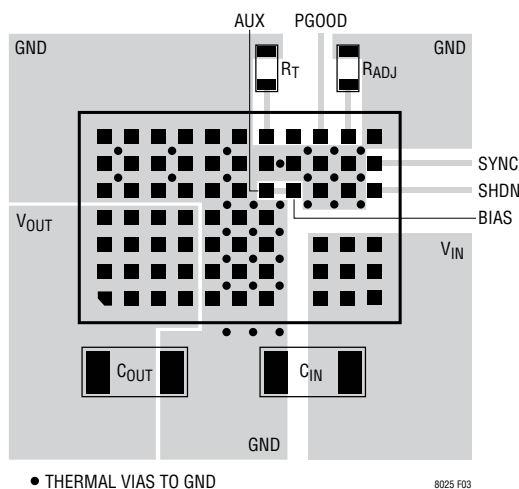

Figure 3. Layout Showing Suggested External Components, GND Plane and Thermal Vias
Most of the headaches associated with PCB layout have been alleviated or even eliminated by the high level of integration of the LTM8025. The LTM8025 is nevertheless a switching power supply, and care must be taken to minimize EMI and ensure proper operation. Even with the high level of integration, you may fail to achieve specified operation with a haphazard or poor layout. See Figure 3 for a suggested layout. Ensure that the grounding and heat sinking are acceptable.
6. For good heat sinking, use vias to connect the GND copper area to the board's internal ground planes. Liberally distribute these GND vias to provide both a good ground connection and thermal path to the internal planes of the printed circuit board. Pay attention to the location and density of the thermal vias in Figure 3. The LTM8025 can benefit from the heat-sinking afforded by vias that connect to internal GND planes at these locations, due to their proximity to internal power handling components. The optimum number of thermal vias depends upon the printed circuit board design. For example, a board might use very small via holes. It should employ more thermal vias than a board that uses larger holes.